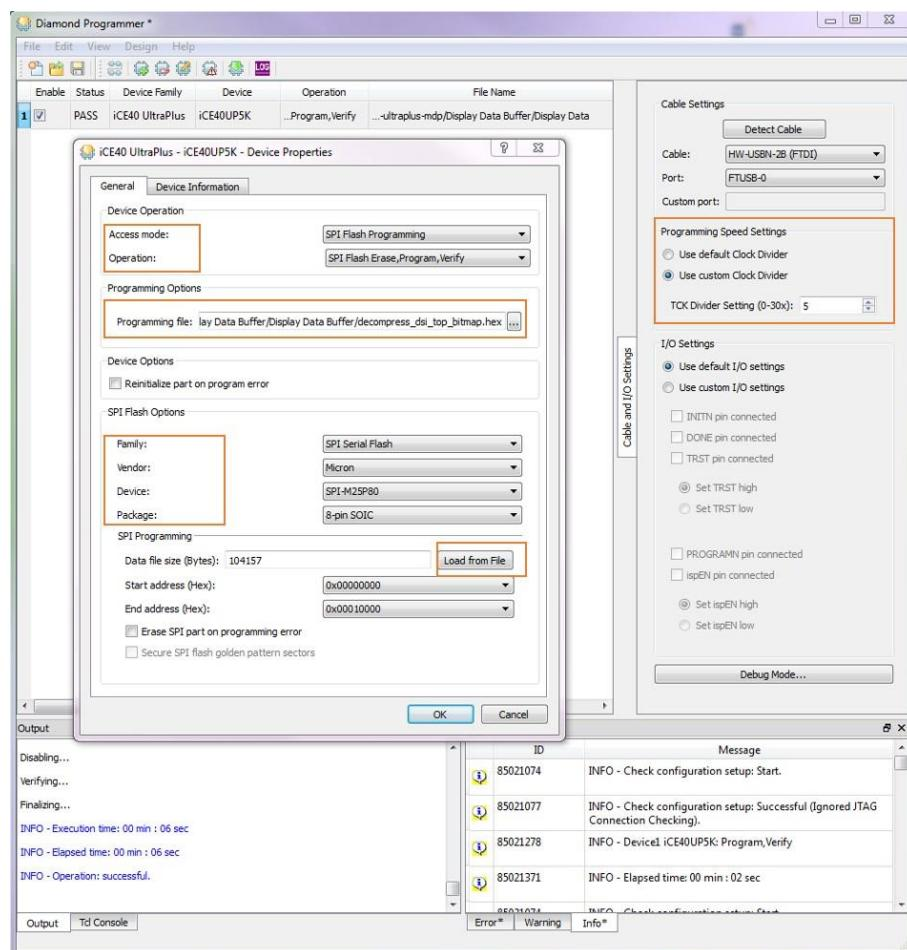

**Figure 7.2. Programming iCE40 Devices on Board**
6. Set **Device Family** to "iCE40 UltraPlus" and **Device** to "iCE40UP5K". Refer Figure 7.2 below.